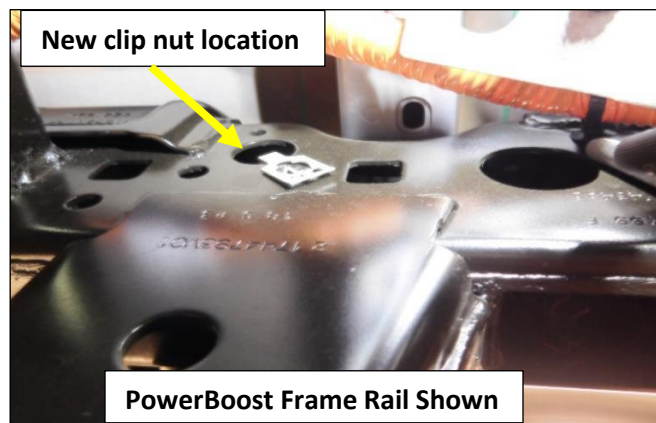

Figure 11
The FACTORY left side tailpipe frame hanger assembly will not be used for Non-Hybrid or PowerBoost models. The Flowmaster Frame hanger 535HAH (17) will be installed in its place. It will be necessary to relocate the factory clip nut to a different location in the frame rail if it is not already there. Most PowerBoost frame hanger assemblies use the correct location. Most Standard F150 frame hanger assemblies use the correct location. PowerBoost vehicles will need the clip nut relocated, as shown in Figures 11 & 12.
2. Remove one of the existing frame hanger clip nuts and re-install it into the frame rail at the location in **Fig. 11**.